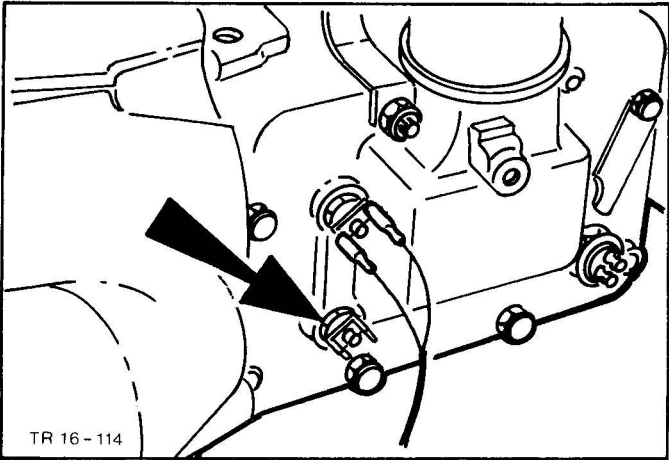

Fig.15. Remove inhibitor switch.
3. Disconnect wiring connector from inhibitor terminal and then unscrew inhibitor switch from gearbox, Fig.15.